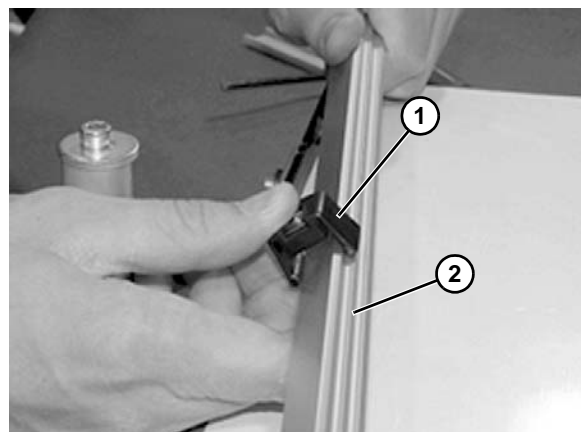

Figure 72
4. Snap clip (**Figure 72, item 1**) onto guide rail (**Figure 72, item 2**).